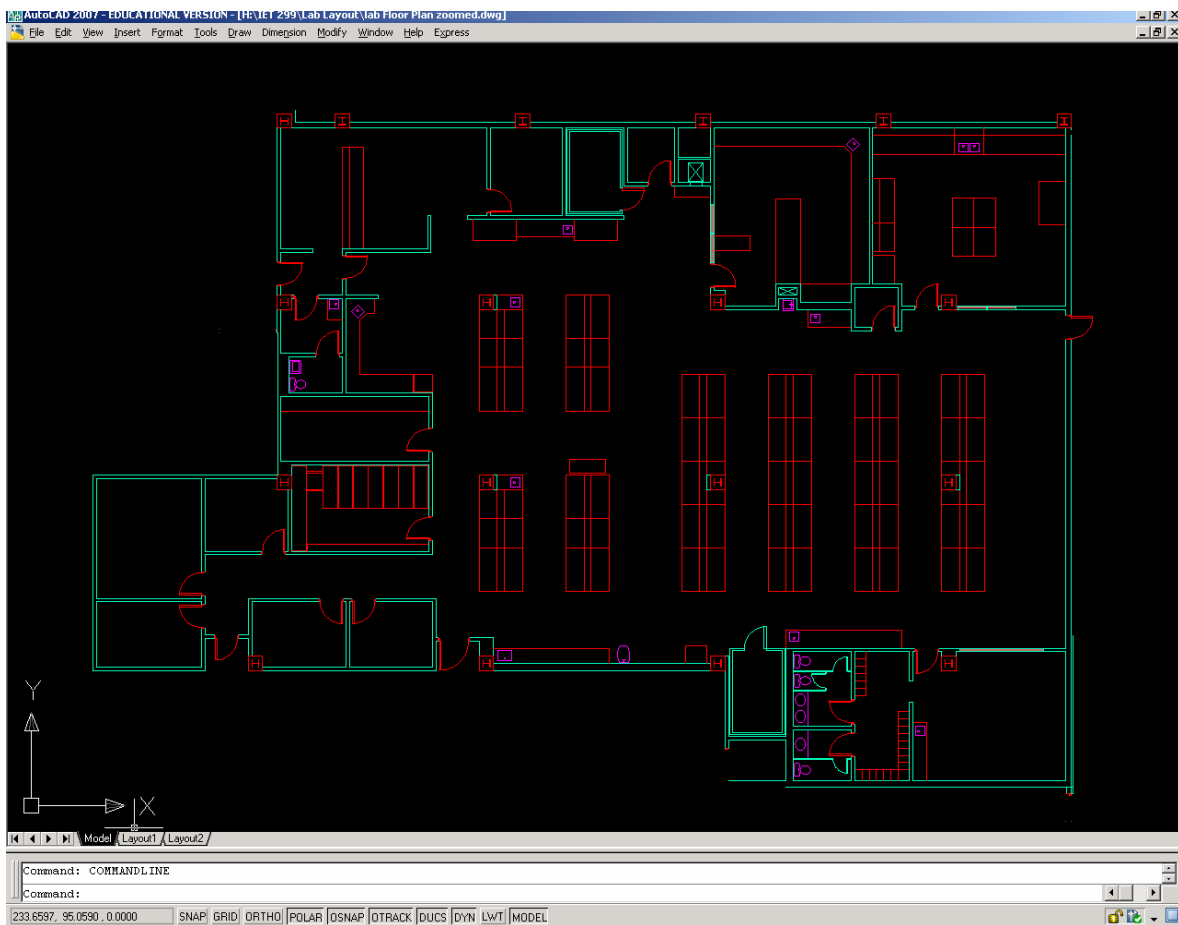

Figure 1
Step 1: Using AutoCAD, create a layout of the workplace that will be used. The drawing must be created to actual size, because Proplanner Workplace Planner (WPP) calculates its measurements based off of the drawing. WPP defaults Engineering units (Foot – Inch), but can be changed to Decimal units (Metric). When using the default method, one AutoCAD base unit is equal to one inch. In order for WPP to function properly, the drawing does not have to be highly detailed. Layers can be used to make the drawing more user friendly, but are not needed. After using Workplace Planner, new layers will automatically be included for the locations and walk paths of the operators. In essence, the drawing only needs as much detail as needed by the user to determine the locations when routing the elements. (See Figure 1)